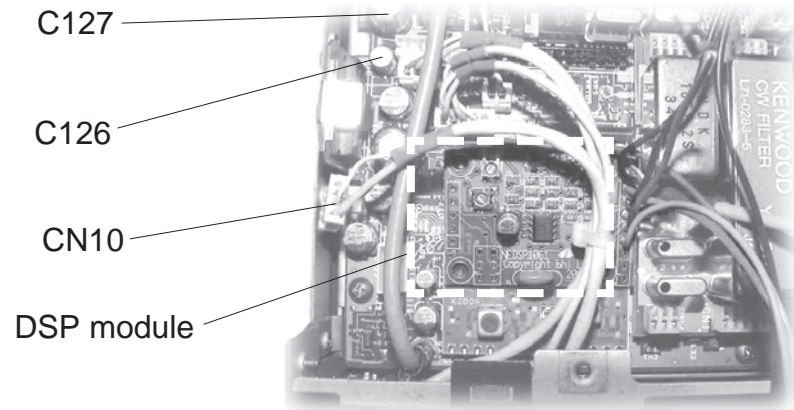

Figure 1. Location of C126,C127, CN10 and DSP module
4. Fit the DSP board as shown in figure 1.
6. Locate the pc board trace coming from pin 8 of the audio amp chip (IC7) This track is between C127 elect cap and C126 elect surface mount cap. There is a + printed on top of this track for C126 (see figure 1).